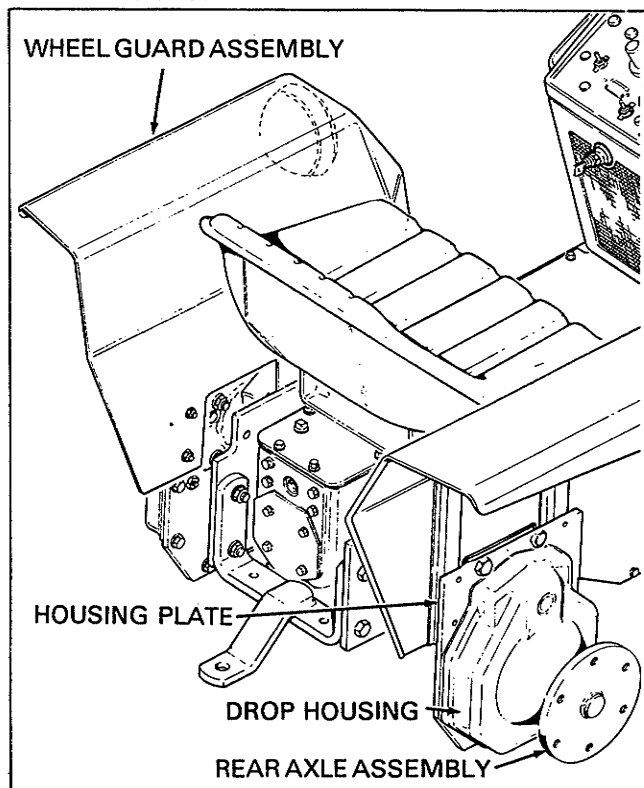

Figure 12. Wheel Guard, Drop Housing, and Rear Axle Group
- b. Remove the six 9/16-18 wheel bolts to remove a rear wheel or five 7/16-20 wheel nuts (bolts on 4040 and 4041) to remove a front wheel (Figure 12).